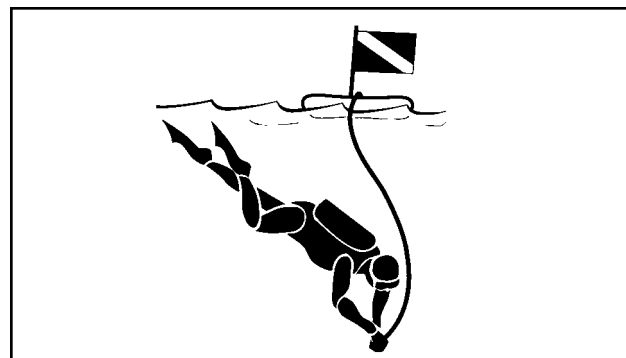

FIGURE 2.13 DIVER DOWN FLOAT
10. Do not allow anyone near the propeller(s), even when the engine is off. Propeller blades can be sharp and can continue to turn even after the engine is off. Stay at least 150 feet away from areas marked by a diver down float (**Figure 2.13**).